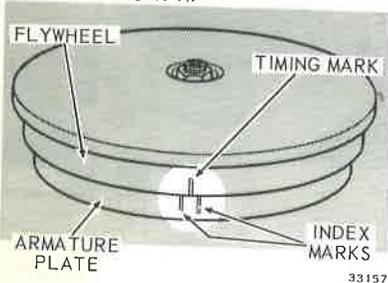

Figure 4-30. Checking Timing with Engine Running
j. Each breaker point setting must be such that, when checked with a timing light connected to each high tension lead, the flywheel timing mark must line up between the two index marks on the armature plate. Operate engine at 1000 R.P.M. for this test. See Figure 4-30.